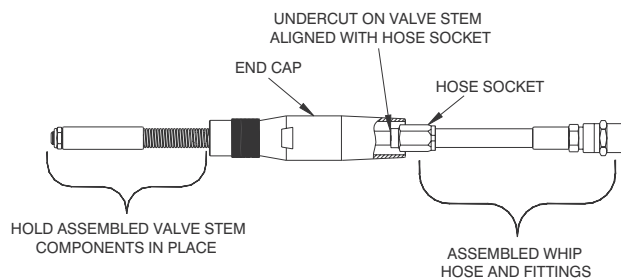

Figure 9-34. Hose Socket and Valve Stem Undercut.
9. Continue tightening the Valve Stem into the Hose Socket until the Valve Stem undercut reaches the edge of the Hose socket, as shown in Figure 9-34.